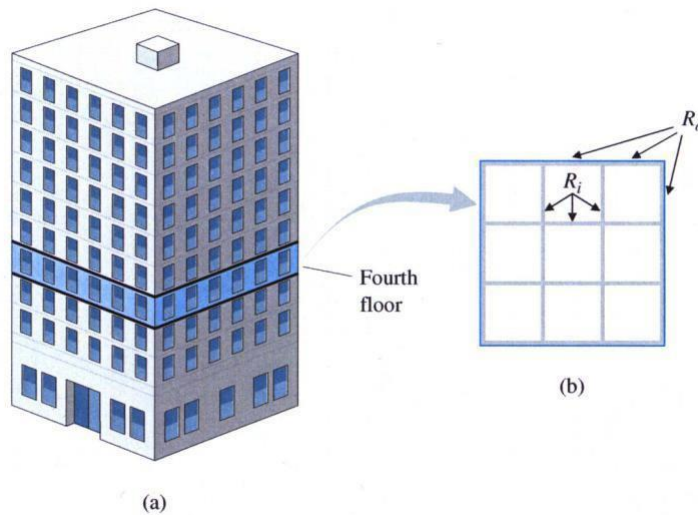

Fig. 2.58 Building air conditioning: (a) high-rise building, (b) floor plan of the fourth floor
24. An air conditioner supplies cold air at the same temperature to each room on the fourth floor of the high-rise building shown in Fig. 2.58(a). The floor plan is shown in Fig. 2.58(b). The cold air flow produces an equal amount of heat flow q out of each room. Write a set of differential equations governing the temperature in each room, where